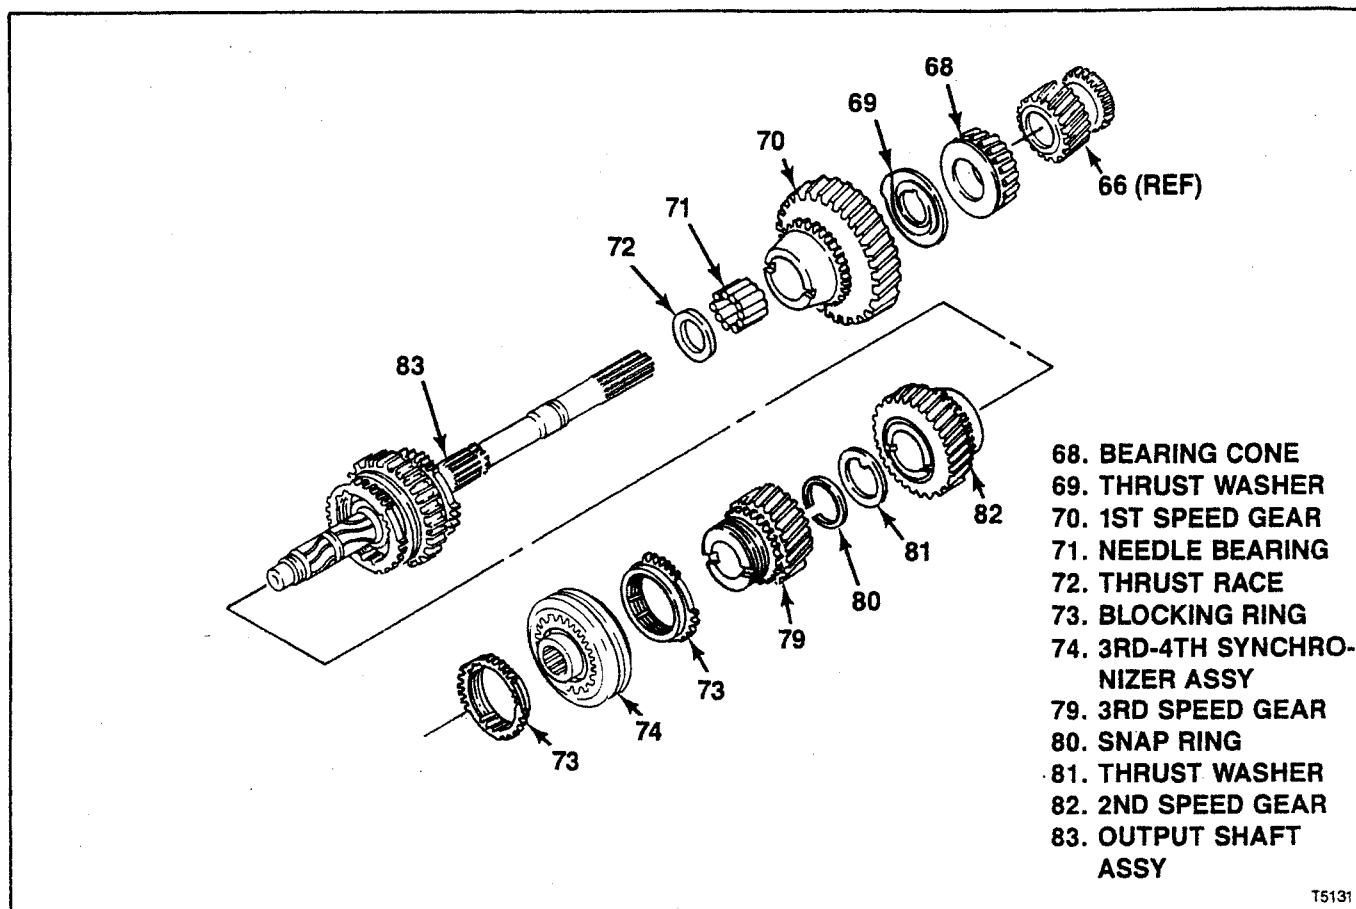
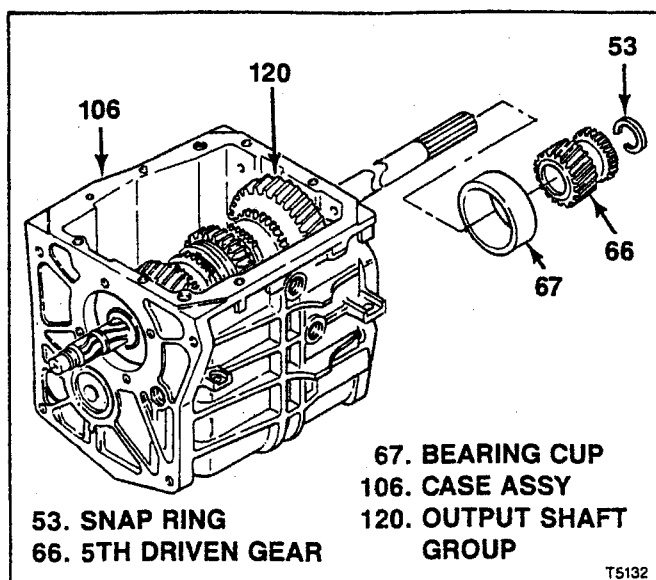

Figure 7-9. Assembly of T5 NWC Output Shaft Group
Figure 7-10. Installation of T5 NWC Output Shaft Group
7-11. ASSEMBLY OF T5 NWC OUTPUT SHAFT GROUP. After assembly of output shaft assembly (83) as described in paragraph 7-10, proceed as follows (see figure 7-9):
a. Install 2nd speed gear (82), thrust washer (81) and snap ring (80).
b. Install 3rd speed gear (79) and one blocking ring (73).
c. Install 3rd-4th synchronizer assembly (74) (as assembled in paragraph 7-6), aligning notches in installed blocking ring (73) with synchronizer inserts. Use a suitable drift that bears on synchronizer hub only.
d. Install remaining blocking ring (73), aligning notches with inserts in installed 3rd-4th synchronizer assembly (74).
e. At other end of assembly, install thrust race (72) and needle bearing (71).
f. Install 1st speed gear (70), thrust washer (69) and bearing cone (68). Use 5th driven gear (66) and suitable drift to press bearing on cone until it is fully seated. Bearing cone is fully seated when shaft snap ring groove is accessible at outside end of 5th driven gear. Remove drift and 5th driven gear.
7-12. INSTALLATION OF T5 NWC OUTPUT SHAFT GROUP. After assembly of output shaft group (120) (paragraph 7-11), install as follows (see figure 7-10):
a. Tilt rear end of output shaft group (120) down and install through top opening and out rear of transmission case (106). Rest output shaft group on countershaft previously installed.
b. At rear of transmission case (106), install bearing cup (67), 5th driven gear (66) and one snap ring (53).